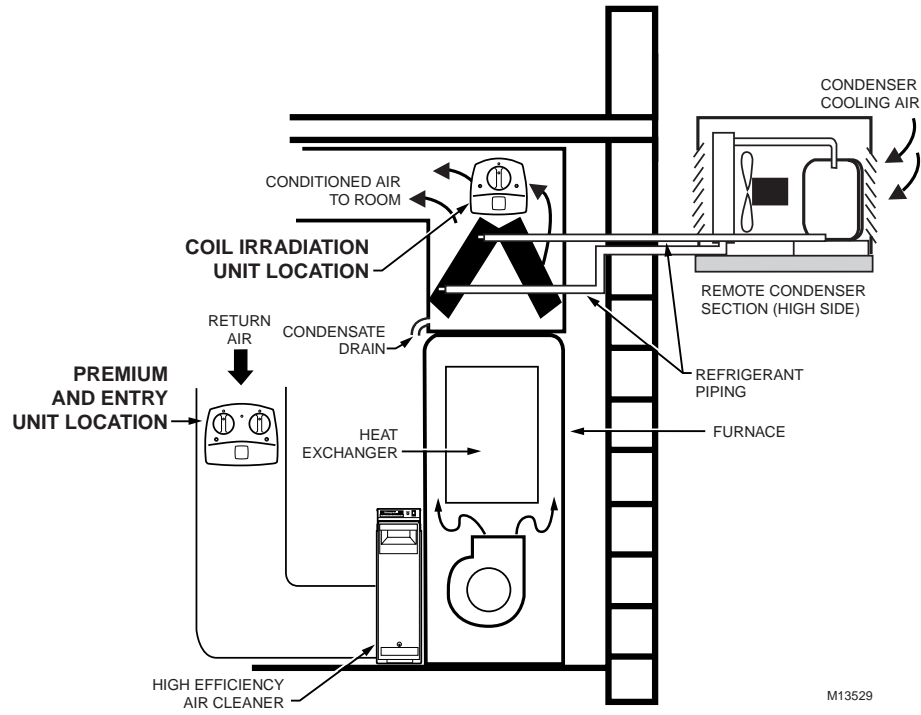

Fig. 1. Selecting mounting location for Ultraviolet Air Treatment System.
2. Determine the location for installation (see Fig. 1):